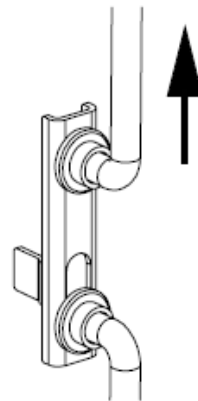
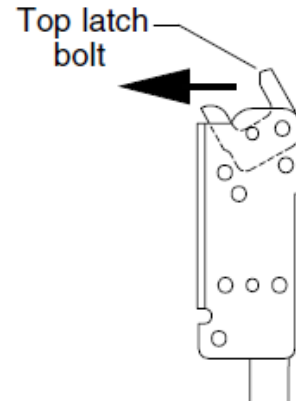

Figure 3-2
Figure 3-3
3.2. Push top rod up until rods are held retracted, traveler is held up (Figure 3-2), and top latch bolt is locked forward (Figure 3-3).